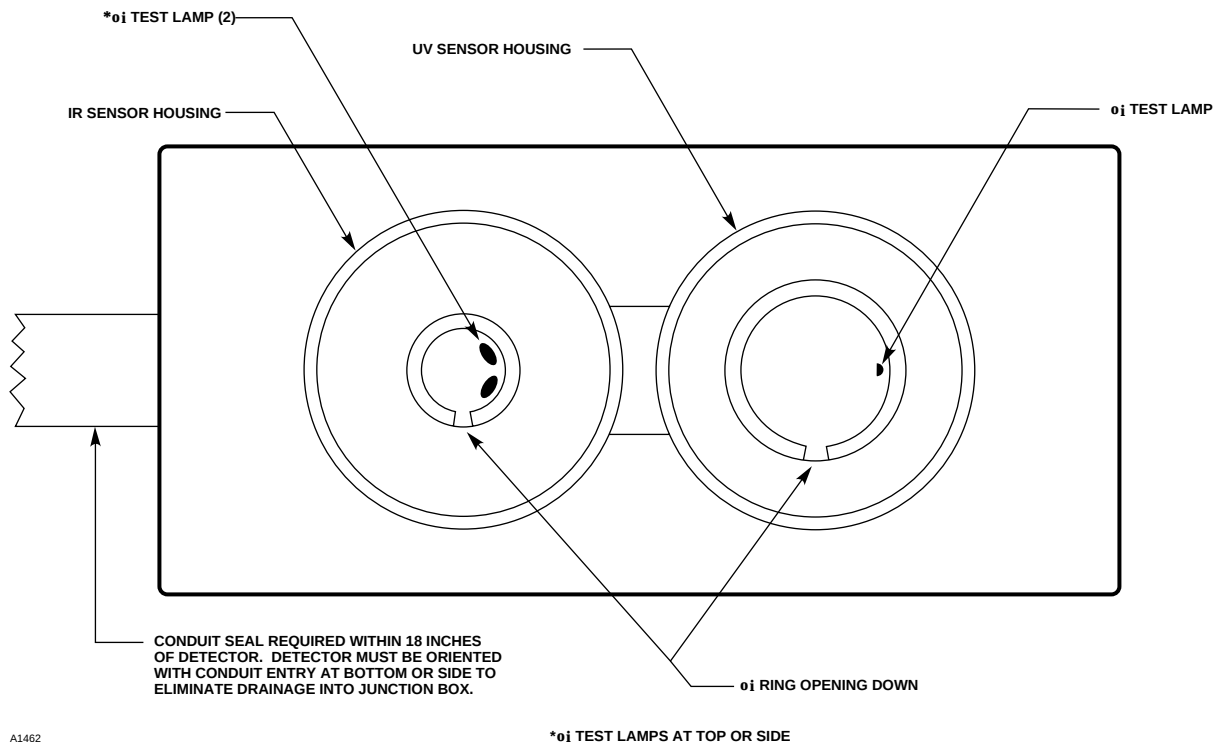

Figure 10—Front View of the C7052 Detector
It is recommended that the detector be oriented with the conduit opening at the bottom or at either side of the device. This will reduce the possibility of moisture entering the junction box through the conduit entry and also ensure that the **o i** test lamps are not in a position that would make the detector overly susceptible to **o i** faults. Whenever possible, slope the conduit run downward from the detector. Do not use conduit runs that enter the device from the top. See Figure 10.
The two **oi** lamps on the DE5500 IR sensor should be at the top or side of the detector (when viewed from the front) and the opening on the **oi** ring should be at the bottom. See Figure 10. This will ensure proper operation of the **oi** system and also minimize the accumulation of moisture and contaminants between the **oi** ring and the viewing window. (The **oi** lamps on the IR sensor are identified as oblong in shape and clear in color.)
16. The opening of the **oi** rings should be pointed down to minimize the accumulation of moisture or contaminants behind the ring (see Figure 10). Verify that the **oi** test lamp is at the top or side of each sensor. Note that Figure 10 shows the DE5500 IR module with the test lamps located together on one side of the edge. The DE3895 IR module has test lamps located directly opposite one another. In both cases, ensure that no test lamp is positioned at the bottom when the detector is installed.